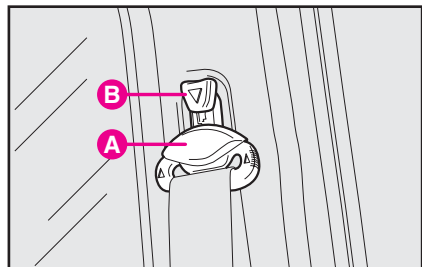

fig. 8
**To raise the belt:** raise loop **A**-fig. 8 to the required position.